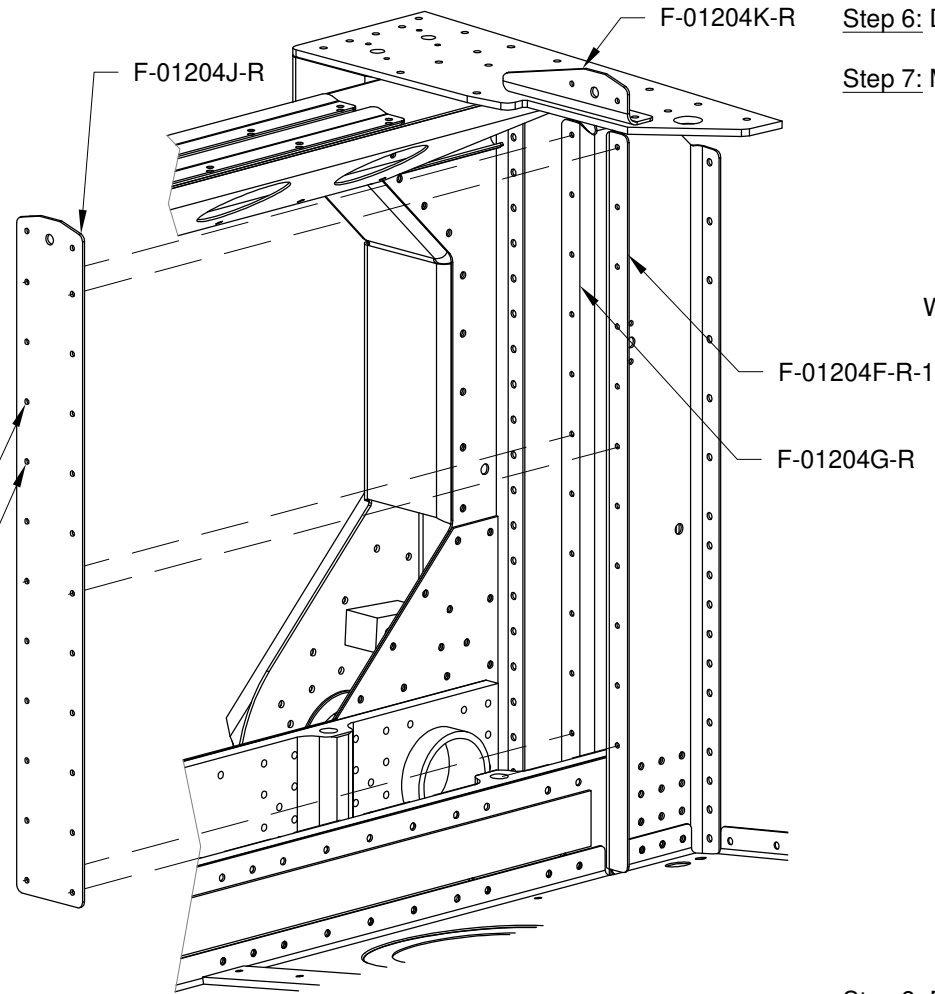

FIGURE 1: F-01204J INSTALLATION
Step 2: Rivet the F-01204J-R to the F-01204F-R-1, F-01204G-R, and F-01204K-R as shown in Figure 1.